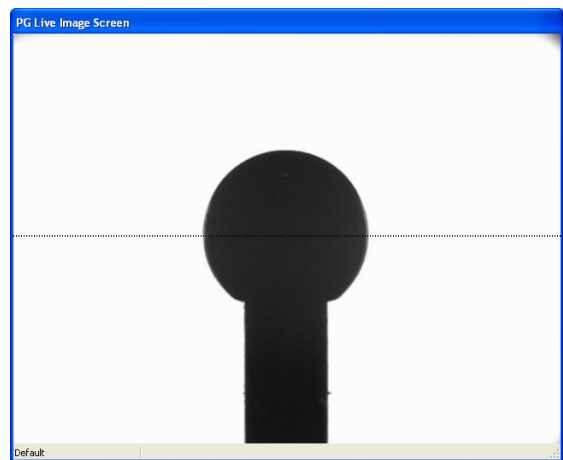

Fig 4.2 Calibration plate with a steel ball
- c) Locate the reference mark at the edge of the instrument sole. The calibration plate has a similar mark indicating the “full sphere”. Place the PGX+instrument on top of the calibration plate with its reference mark positioned above the dot as indicated in Figure 4.2. Push gently on top of the instrument to make sure the instrument rests firmly against the calibration plate surface.